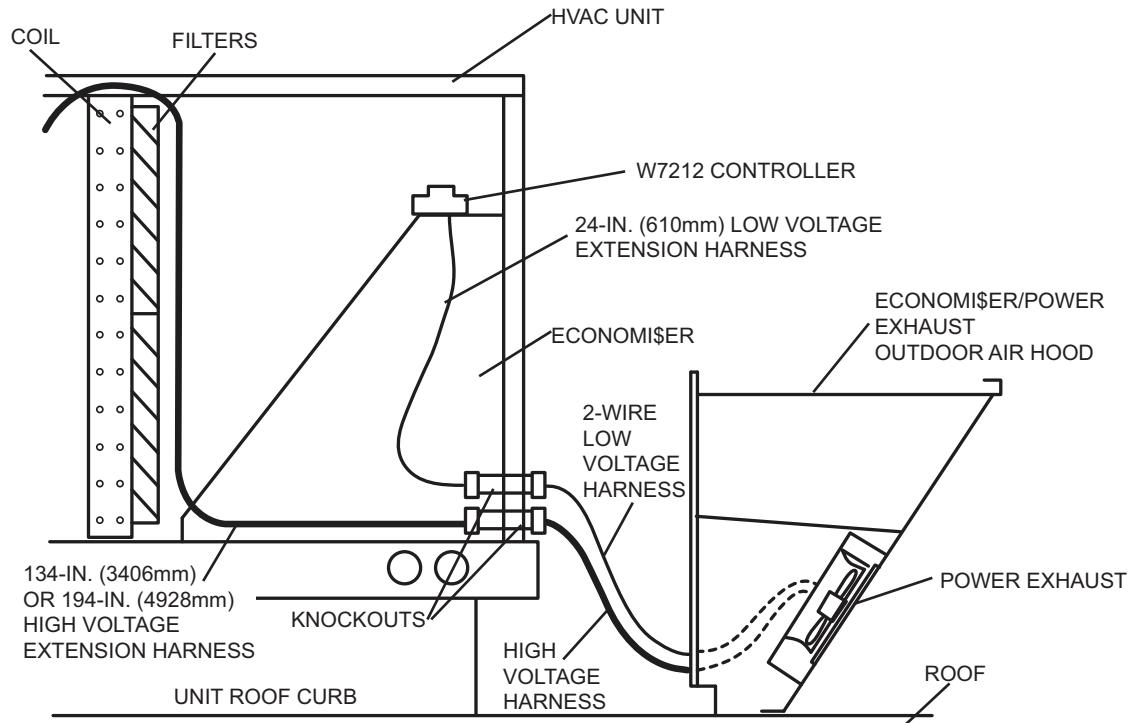

Fig. 4 — Power Exhaust Harness Installation for EconoMi\$er IV with W7212 Controller
4. *For EconoMi\$er IV:* Route the other end of the low voltage extension harness to the EconoMi\$er IV controller. (See Fig. 4.) The harness is connected to the controller by connecting the tan wire to the tan wire 24 VAC COM terminal on the controller. The terminal on the gray wire is connected to terminal EF1 on the controller. See Fig. 6 and 7 for EconoMi\$er wiring diagrams. Install the gray jumper wire on the controller from the exhaust fan terminal (EF), to the 24 VAC HOT terminals. The gray jumper is shipped wire tied to the control harness.